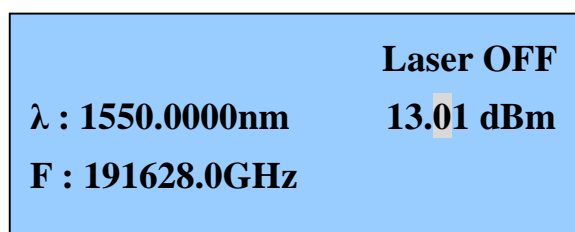

Figure 8 Modify the power parameter
- 2 Pressing [  $\blacktriangleleft$  ] or [  $\blacktriangleright$  ] pushbutton to move to the desired digit, as shown in Figure 8.